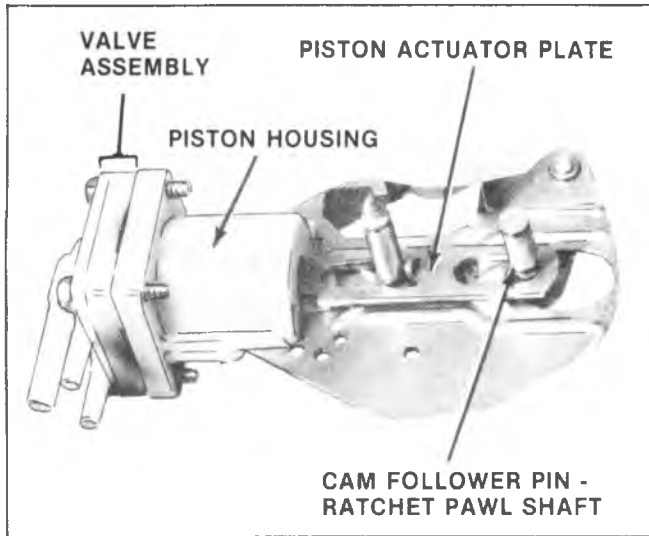

Fig. 8-22-Washer Valve Assembly
The basic pump consists of a spring loaded piston enclosed in a plastic cylinder housing. Attached to the piston and extending out of cylinder housing is an actuator plate. Attached to the end of the cylinder housing is a valve assembly consisting of two exhaust check valves and one intake check valve. Figure 8-22.
2. The tang on the piston actuating plate is resting once more against the ramp on the lower side of the ratchet gear (Fig. 8-22).